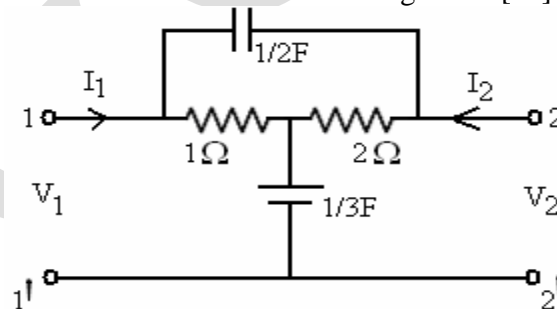

Figure. 3
2. Find Z and Y parameter of the network shown below Figure. 3. [15]